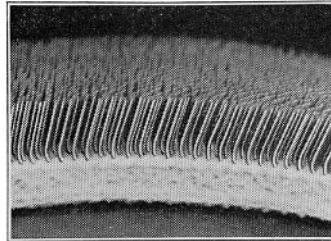
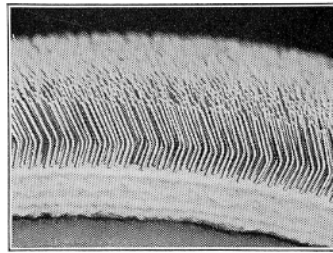
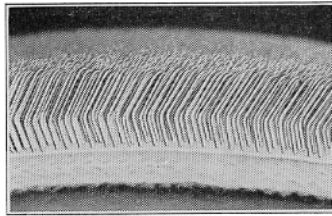

FIG. 4. CYLINDER CLOTHING,
FIG. 6. CYLINDER CLOTHING,
FIG. 8. CYLINDER CLOTHING,
Characteristic cotton-card cylinder clothing is shown in Fig. 4. Note the thickness of the CWCC foundation. The clothing, like most cylinder filleting, comes in strips 2 in. wide. If you could inspect the backs of the strips, you would find 8 ribs in the width, that is, 4 crowns per inch. You would count 21 noggs per inch in the length. In accordance with the formula you have learned, this would give you:
A characteristic cylinder clothing for a woolen card is shown in Fig. 6. With a CCWC foundation, 2-in. width, 4 crowns per inch, and 16 noggs per inch, the clothing is quite similar to a coarse cotton-card cylinder clothing. The wire is gauge No. 33. This clothing might be used on the first breaker for very fine, lofty wool; on the second breaker for medium work; and on the
15. Now let's look at another variety of cylinder wire—that used in the worsted-type clothing shown in Fig. 8. At first glance this clothing resembles the clothing shown in Fig. 4 and Fig. 6. With No. 33 wire, 8 crowns per inch, and 20 noggs per inch, it is suitable for fine work. It differs from the clothing